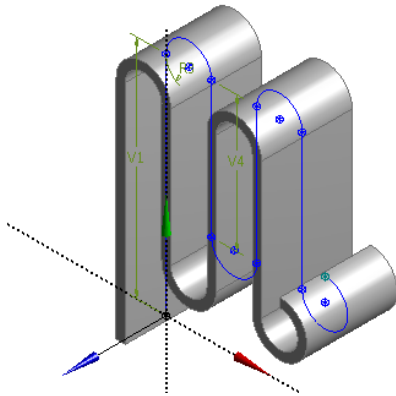

Figure 3-79 The generated feature
11. After specifying all the parameters in the **Details View** window, choose the **Generate** tool from the **Features** toolbar; the geometry is extruded, as shown in Figure 3-79.